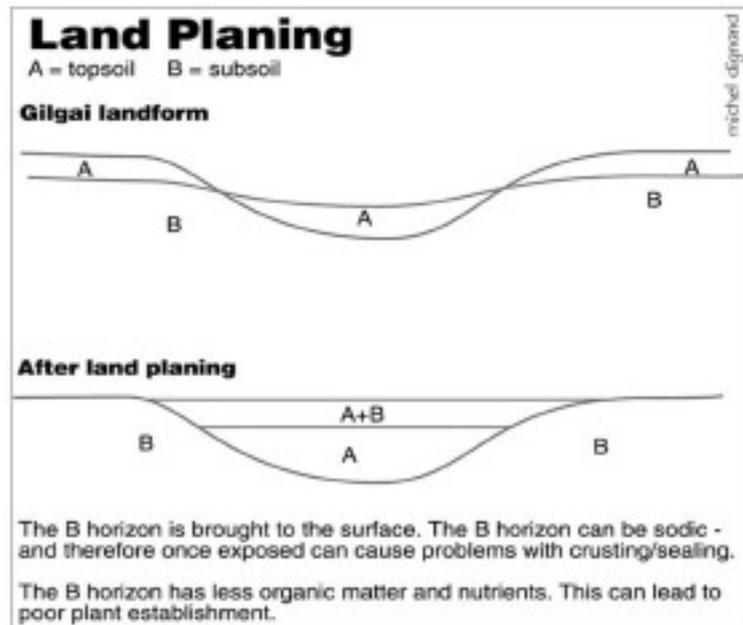

Figure D11-3. Land planing
3. Land planning removes topsoil from the mounds and places it in the hollows (Figure D11-3). This leaves only subsoil on the puffs, which have lower organic matter levels, higher amounts of clay and higher sodium levels, therefore making it harder for the plants to get a good start to life.